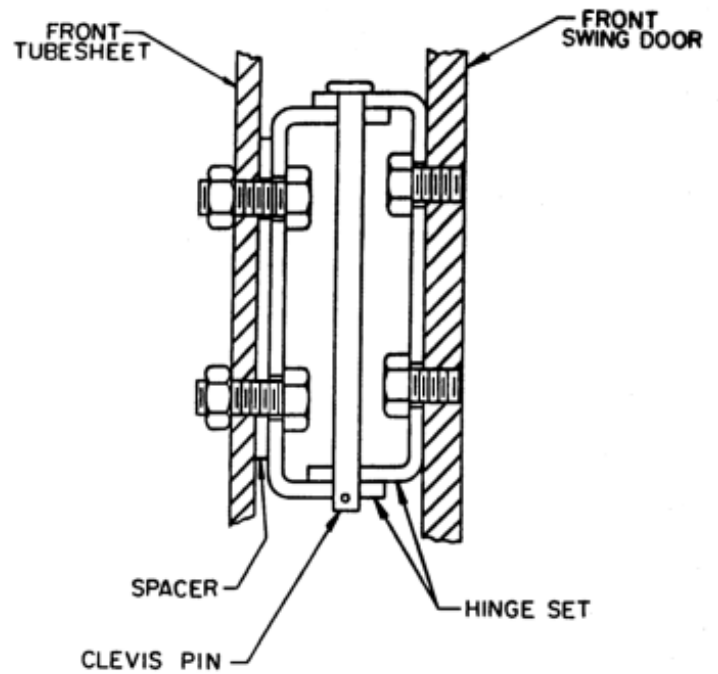

Figure 4: Hinge Assembly
6. Replace door assembly. Hinge brackets attached to door must rest on top of hinge brackets attached to tubesheet. See Figure 4. Slide hinge pins through hinges from top and install cotter pins. Close door and install 5/16" - 18 x 3" long hex head cap screws through flat washers and left side of door and into tapped holes in tubesheet. Tighten all hex nuts, bolts and screws. When door is installed properly, it is parallel to Tubesheet when viewed from top and sides.